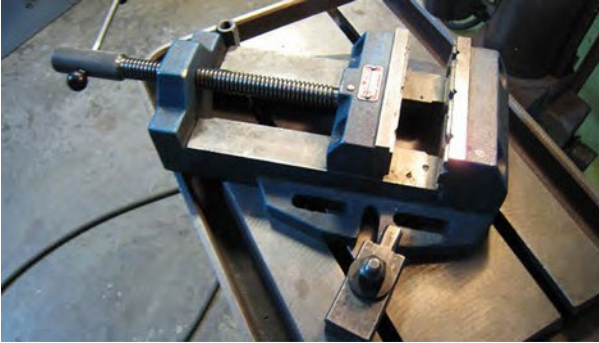

Figure 3 - Fastening the table vice on the table, example
- Depth gauge and Depth gauge rod (3) must never be removed from the machine.
- Make sure that the work piece is securely fastened at the table, see the examples in figure 3 and 4.